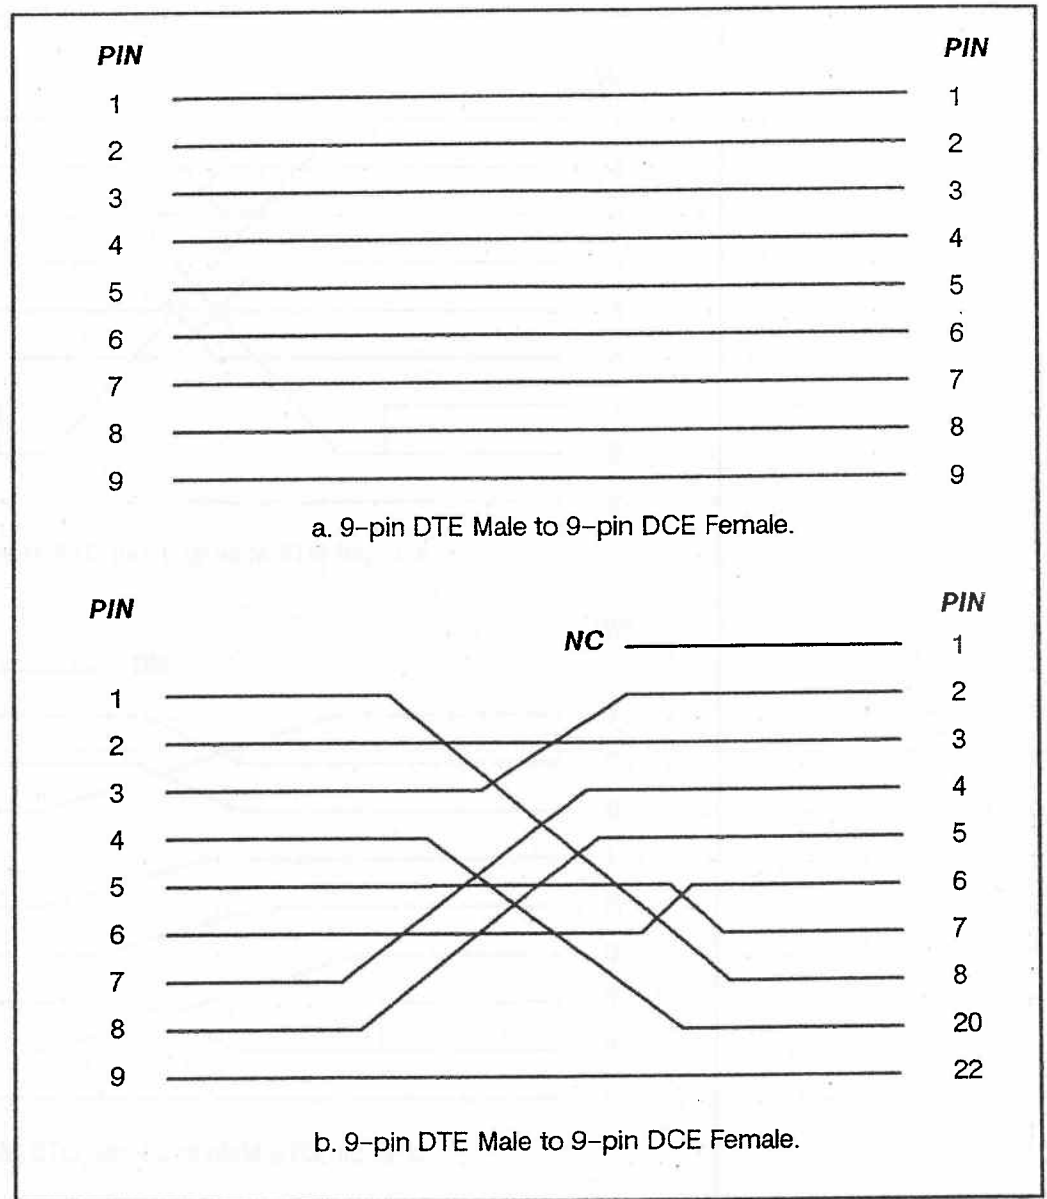

Figure F-4. Straight Through cable wiring.
If you have a DTE device with a male connector and a DCE device with a female connector, you may use a standard RS-232-C "straight through" interconnection cable, see Figure F-4. If the connections are not standard, read the Interconnection Rules. Then read the Interconnection Cable-type Identification information to find the interconnection cable type you will need for your application.
1. A standard RS-232-C cable connects a DTE device to a DCE device. Both devices must adhere to the electrical and mechanical specifications of the RS-232-C standard. The standard cable has a female connector on one end and a male connector on the other end. The Transmit and Receive conductors are not interchanged. The standard RS-232-C cable is sometimes referred to as a "straight through" cable. See Figure F-4 for a "straight through" cable wiring schematic.